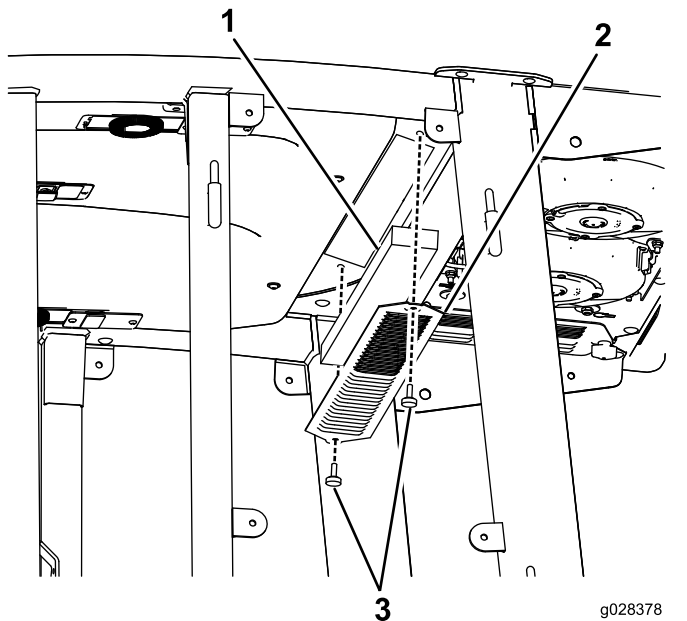
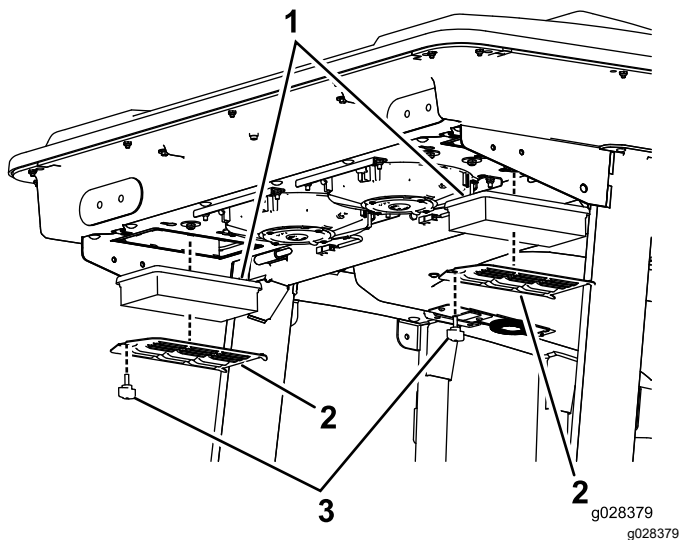

Figure 92
Figure 93
1. Remove the screws and grates from both the in-cab and rear cab air filters (Figure 92 and Figure 93).